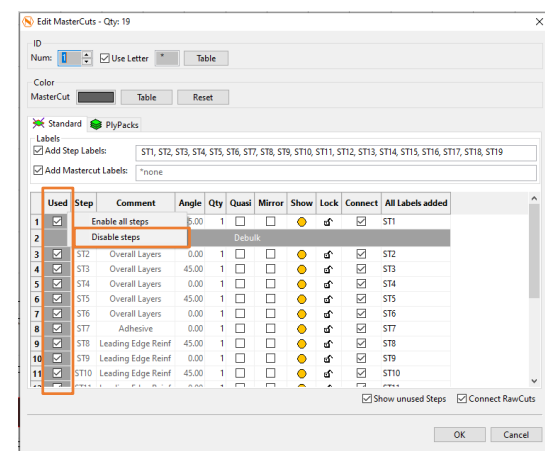

Figure 272
67. Since we just need step 7 for our selected MasterCuts we must deselect all other steps. Therefore right-click on the label of the **[Used]** column and select **[Disable steps]** (Figure 272).